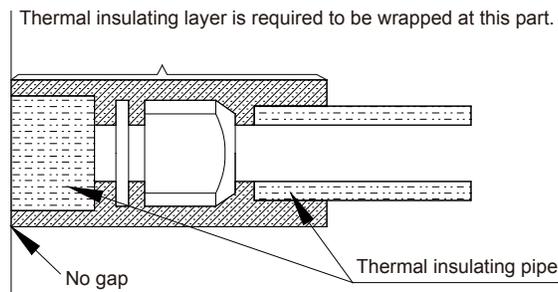

Fig 9
- (1)The refrigerant pipe should be insulated in order to prevent condensation and water leakage.
- (2)The joints of the indoor unit should be wrapped with insulating material and no gap is allowed on the joint of the indoor unit, as shown in Fig.9.